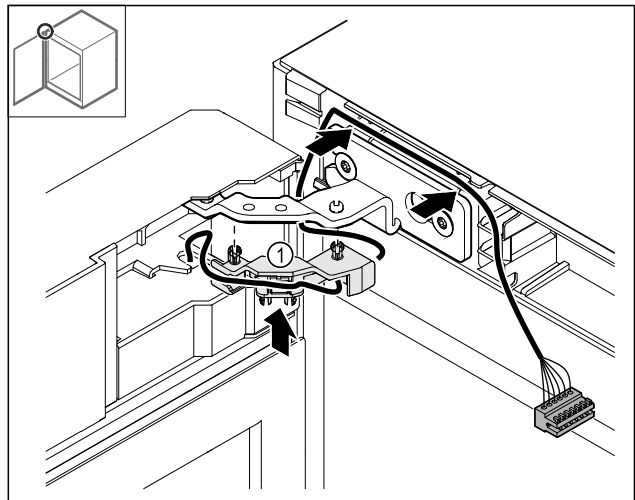

Fig. 48
- Push the cable holder Fig. 48 (1) into the hinge.